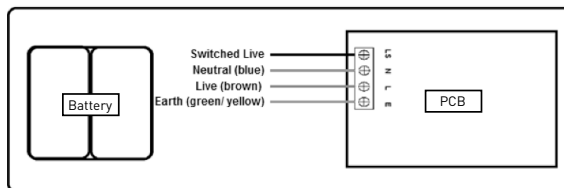

Fig 4
- For maintained non-switched operation, carefully wire as shown in Fig 4